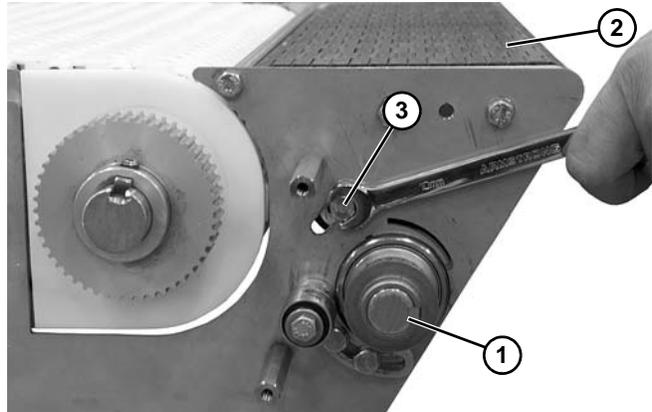

Figure 76
11. Rotate drive shaft (Figure 76, item 1) to verify tightness of belt (Figure 76, item 2). Belt should turn freely. Loosen hex head screw (Figure 76, item 3) on both sides and adjust, if necessary.